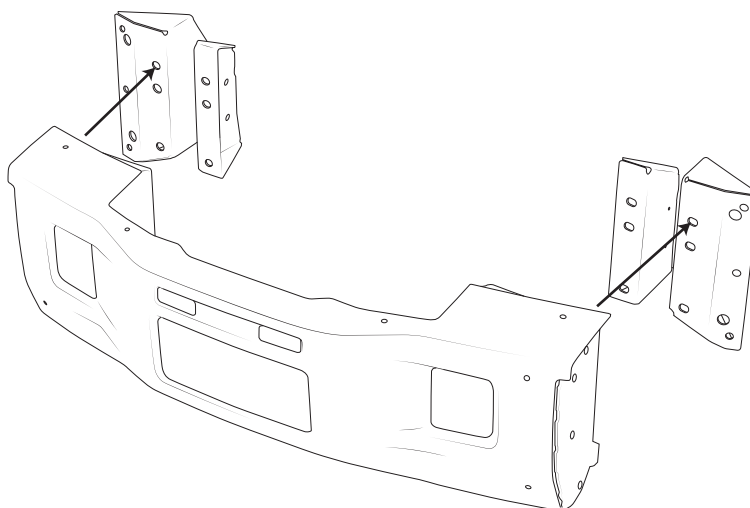

Figure 17
1. With a helper, lift bumper into position inserting carriage bolts from the previous step through the upper holes in the outer frame mounting brackets (fig. 17).
2. Thread two (2) M12 nuts onto the bolts going through the frame brackets to secure the bumper.